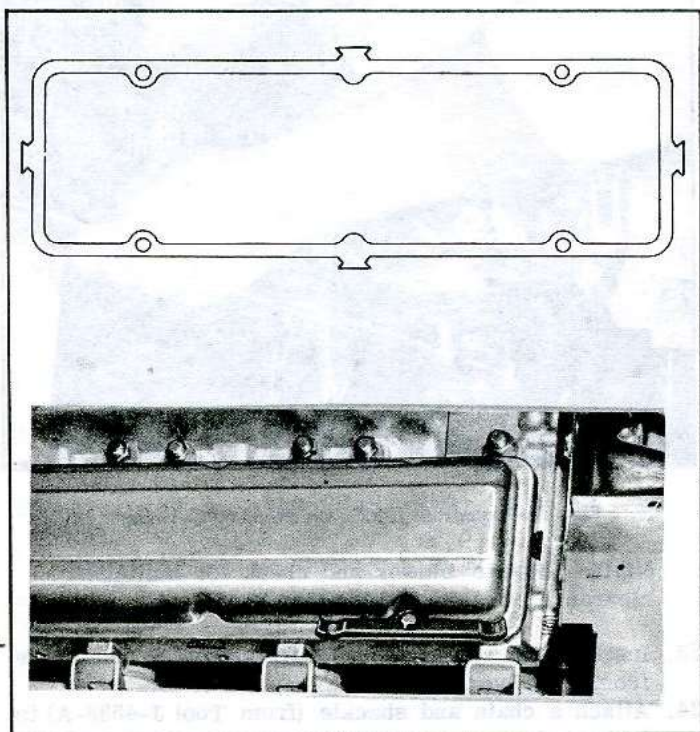

Fig. 78—Valve Cover and Gasket
28. Using new gaskets, install valve rocker covers and spring reinforcements then torque to specifications (fig. 78).